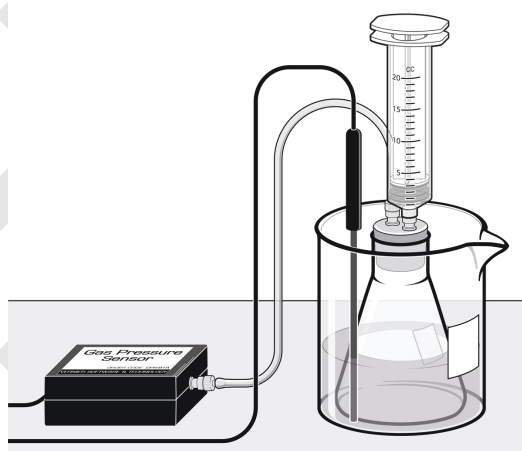

Figure 2
2. Set the syringe volume to zero and connect it to the stoppered flask. Place the flask in the 400 mL beaker as shown in Figure 2.